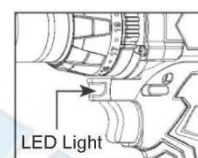

Fig. 10A
2. Light can be on with slightly pressing the trigger. (Fig. 10A)